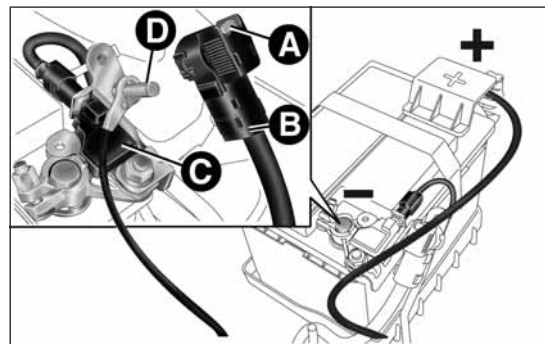

fig. 155
- ☐ disconnect the connector A fig. 155 (pressing the button B) from the sensor C monitoring the battery conditions, on the negative pole D of the battery;